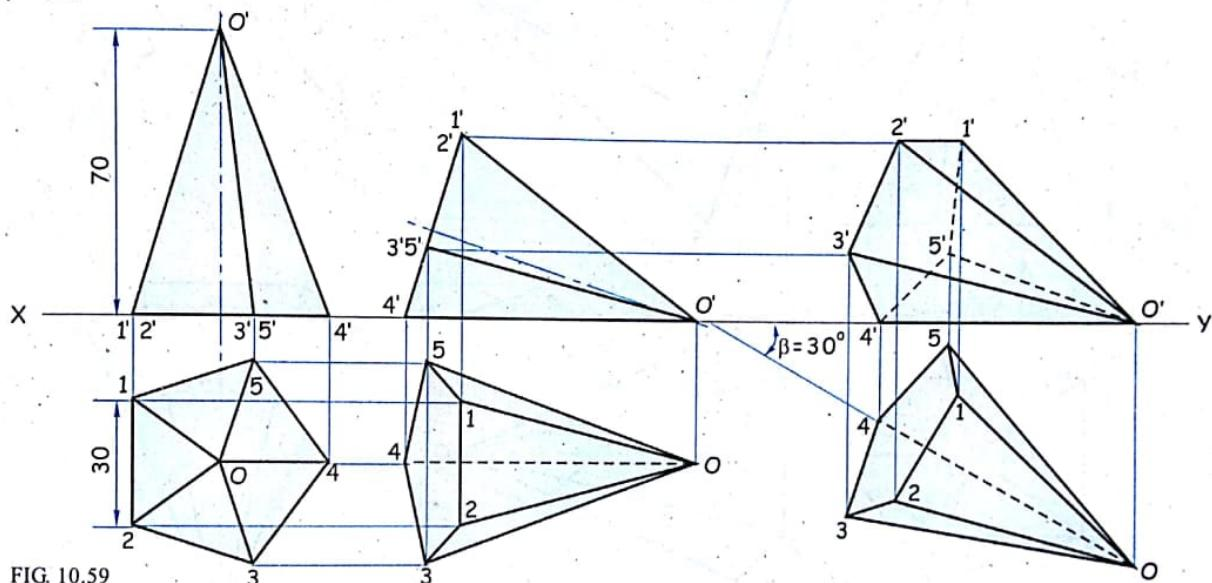

FIG. 10.59
Refer figure 10.59.
**Solution :** Refer figure 10.59. Similar solution.